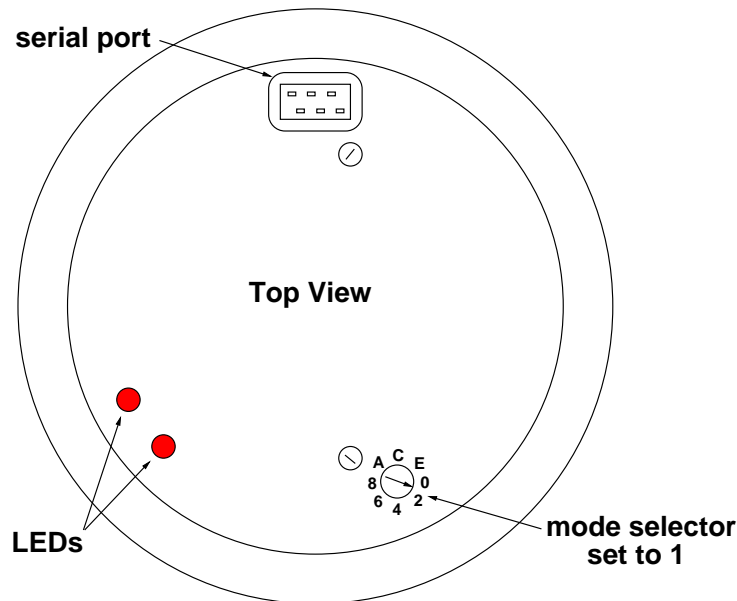

Figure 6.1: Khepera II mode selection
1. Configure your Khepera robot in mode 1, for serial communication protocol at 9600 baud as described in figure 6.1.